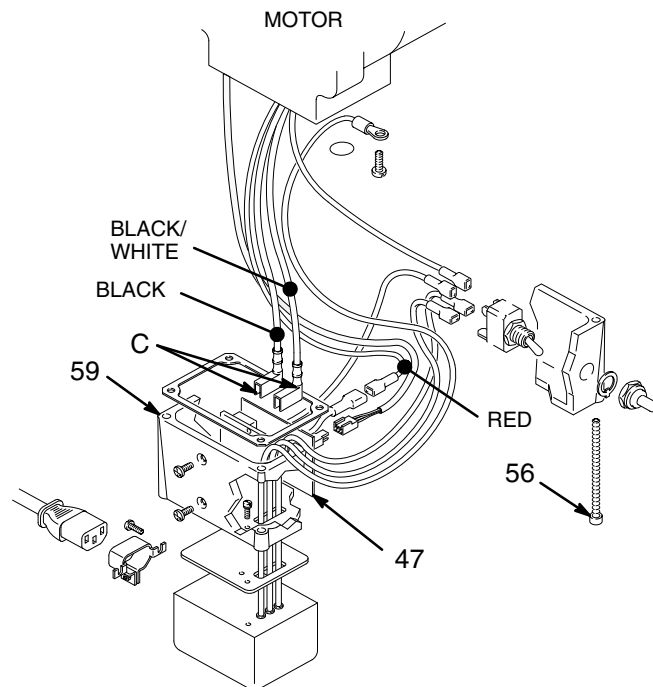

Fig. 14
Remove the junction box screws (56). Lower the junction box. Disconnect the two leads (C) from the motor to the board (47). See Fig. 14.